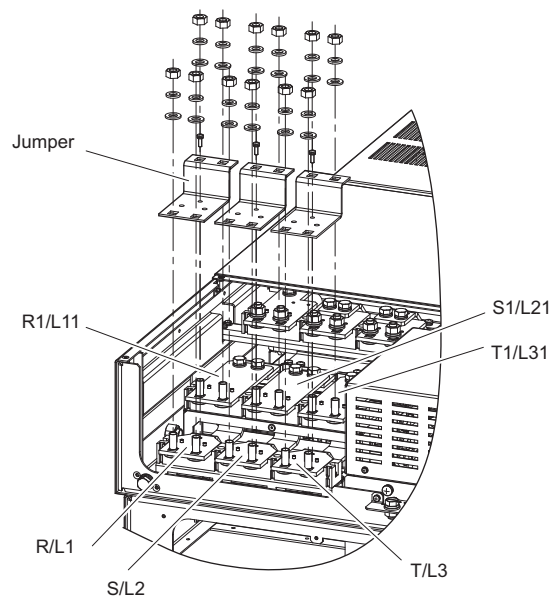

Figure 3.2 Removing the jumper
- Remove M5 screws and then jumpers to operate with 12-phase rectification as shown in Figure 3.2.